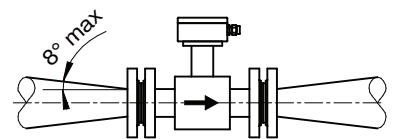

Figure 2.3
**NOTE:** Straight-line lengths may include up to 8° slopes (see Figure 2.3)